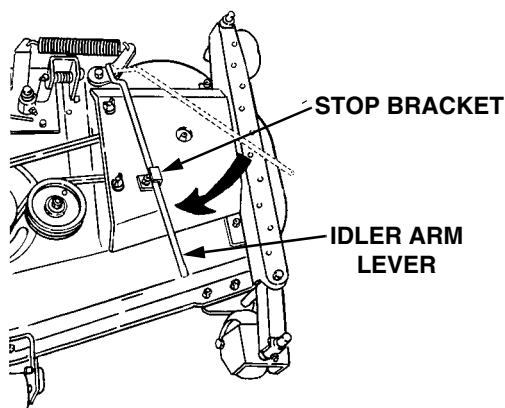

**Figure 47**
7. Lower the mower deck by moving the implement lift handle to its lowest setting. Disengage the deck idler arm lever from its stop bracket and release the spring tension by rotating the lever out and rearward (Refer to Figure 47).